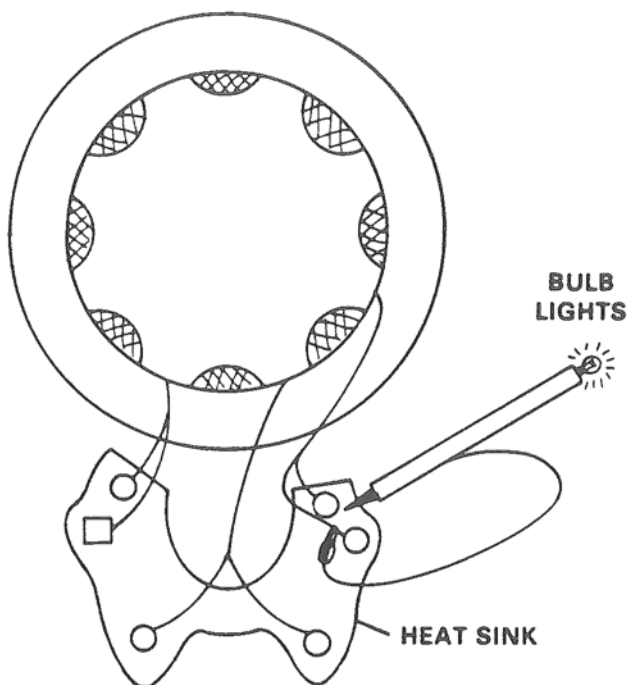

Figure 27. Rectifier Test.
D. Current draw greater than 3.4 amps or an ohmmeter reading less than 3.6 ohms indicates the windings are shorted. Figure 27. No current draw or an infinite ohmmeter reading indicates an open winding. In either case rotor must be replaced.
A. Connect clip to stator lead. Figure 27. Touch test probe to heat sink. Probe bulb should light either in this position or by reversing the clip and probe. If the probe bulb lights in BOTH directions, one or both of the rectifiers in that heat sink is shorted.